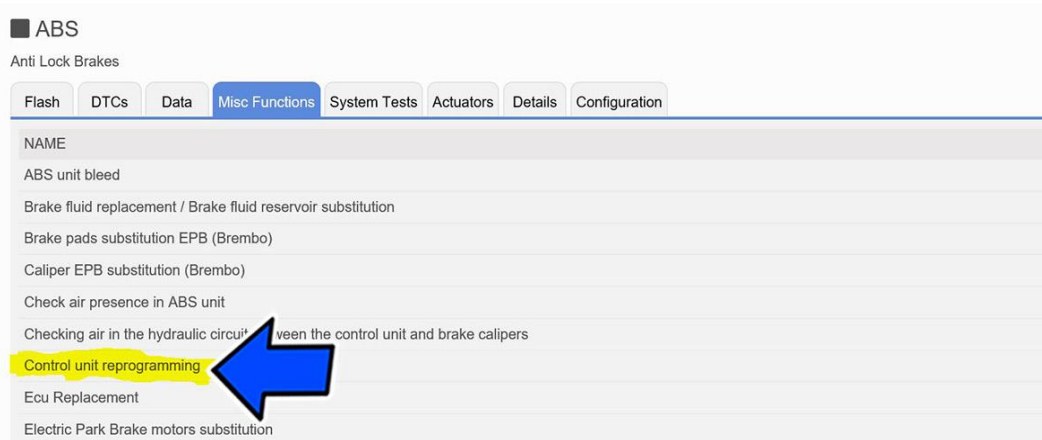

Figure 26 - Control Unit Reprogramming
- From the ABS “**Misc. Functions**” tab, select and run the “**Control Unit Reprogramming**” routine (Figure 26).